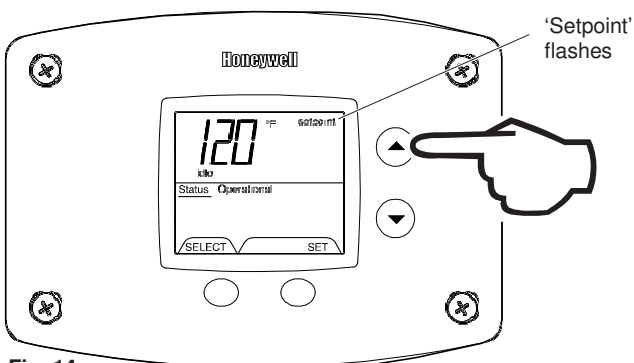

Fig. 14
2. 'Setpoint' indicator begins flashing in the display after pressing 'Temperature Up' button (Fig. 14).